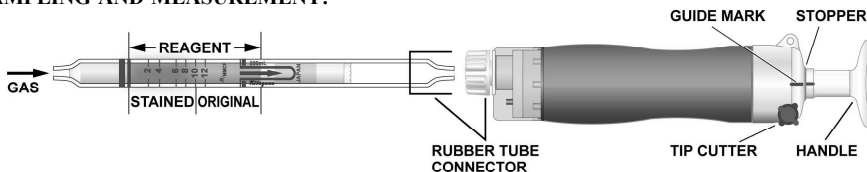

Fig.1
- ② Insert the detector tube into the aspirating pump securely as shown in Fig.1. (Arrow mark shall point to the pump.)
- ③ Align the guide marks on the shaft and stopper of the aspirating pump.
- ④ Pull the pump handle at a full stroke until it locks and wait for 1 minute or until confirmation of sampling is completed with the flow indicator of the pump.(See descriptions about the flow indicator in the instruction manual of the pump).
- ⑤ Turn the pump handle right or left by 1/4 (90°), push back the handle without removing the detector tube from the pump. Then repeat the steps ③ to ④ once more.
- ⑥ On completion of sampling, read the scale at the top of the stained layer.